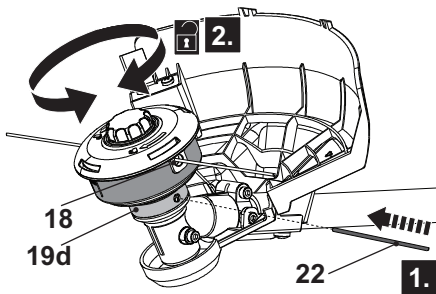

Fig. 27
1. Turn the product upside down to access the trimmer head (18).
2. Rotate the trimmer head (18) until the hole on the backing flange (19d) is aligned with the notch in the gear head.
3. Insert the spindle lock rod (22) into the hole to lock the spindle (19e) (Fig. 27, step 1).
4. Loosen the trimmer head (18) clockwise (Fig. 27, step 2) by hand and remove it from the spindle (19e).